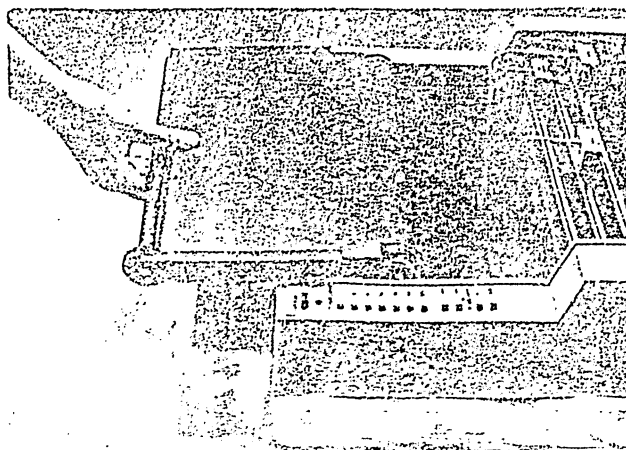

Fig. 8
c) As shown in Fig. 8, if the chart table is drawn out toward you until it is locked, it is kept in horizontal position.